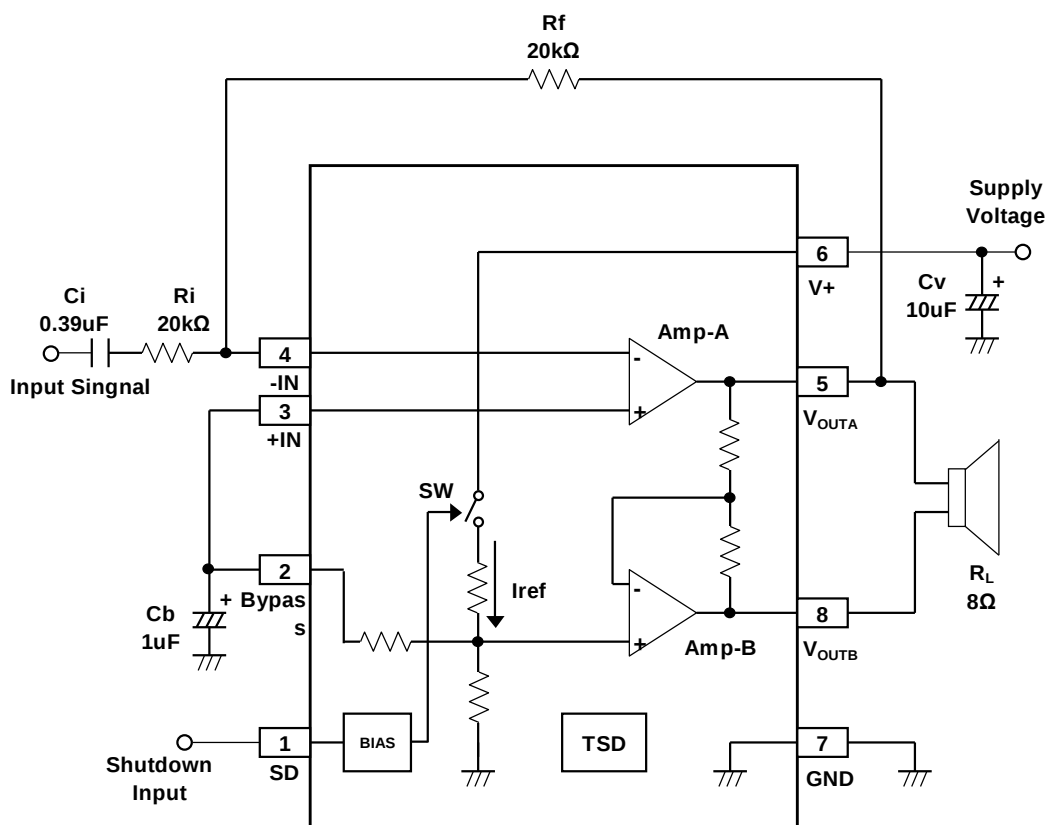

Fig1. Block diagram and Application circuit
Fig.1 shows the NJU7089 internal circuit. It comprises of two power amps (Amp-A, Amp-B), a bias circuit, and a thermal shutdown[TSD] circuit. Pin 4 and Pin 3 are the inverting and noninverting terminal to Amp-A. A reference voltage is provided at Pin 2, which should be connected to Pin 3. Pin 5 is the output terminal to Amp-A. A second operational amplifier, Amp-B is configured with a fixed gain of $A_v = -1$ and produces the inverted signal of Pin 5. The NJU7089 outputs at Pin 5 and Pin 8 produce a bridged configuration output to which a speaker can be connected. Twice the output voltage and four times output power in a bridged amplifier are possible as compared to a single-ended amplifier. When a SD mode is active, the internal switch(SW) turns off to stop an internal bias current. As a result, a SD mode reduces the supply current. The external capacitor (C_b) and Internal resistance eliminate disturbing pop noise during the SD mode ON/OFF. (Ref. Page 3) The external capacitor (C_b) value depends on the turn-on time. (Ref. Page 7)